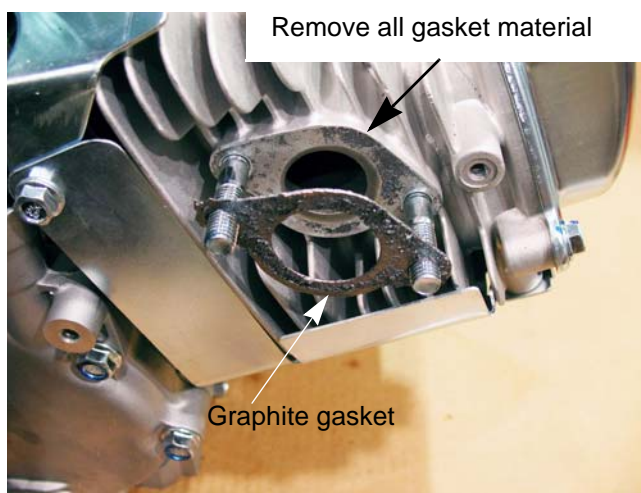

Figure 8.4
3. Clean all of the gasket material off of the cylinder head and the muffler. See Figure 8.4.